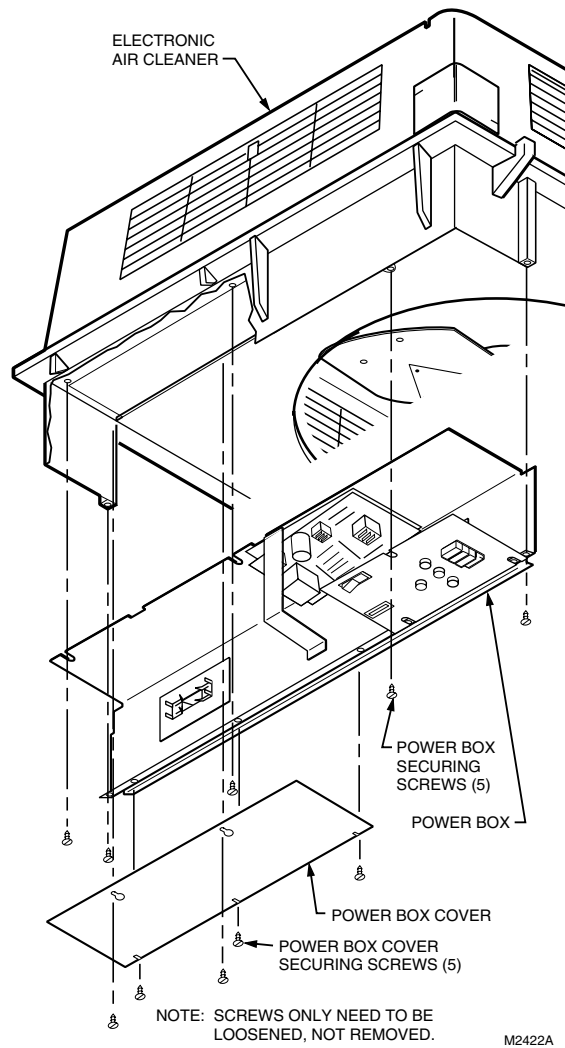
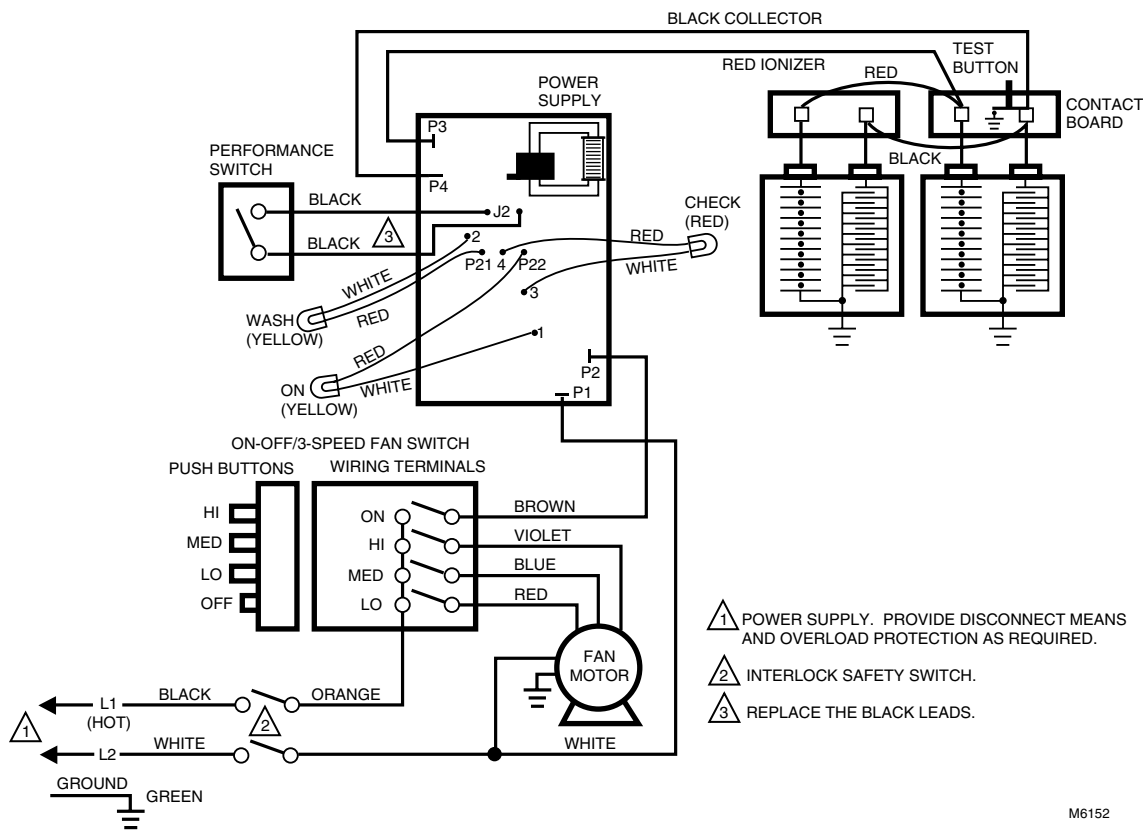

Fig. 23. Removing the F90 Power Box Assembly.
Fig. 24. F90A 120 Vac model schematic diagram.
The F90 troubleshooting charts quickly isolate F90 problems. See Fig. 22. If removing power box, follow instructions below. See Fig. 23. For the F90 schematic diagrams, see Fig. 24 through 27.
3. Loosen the screws holding the power supply assembly cover plate and remove the cover plate. See Fig. 23.
4. Loosen two screws on inner wall of power supply assembly and three screws on the top of the assembly. Slide the power supply assembly toward the center of the air cleaner and disconnect the two Molex connectors and the one quick disconnect. See Fig. 23.